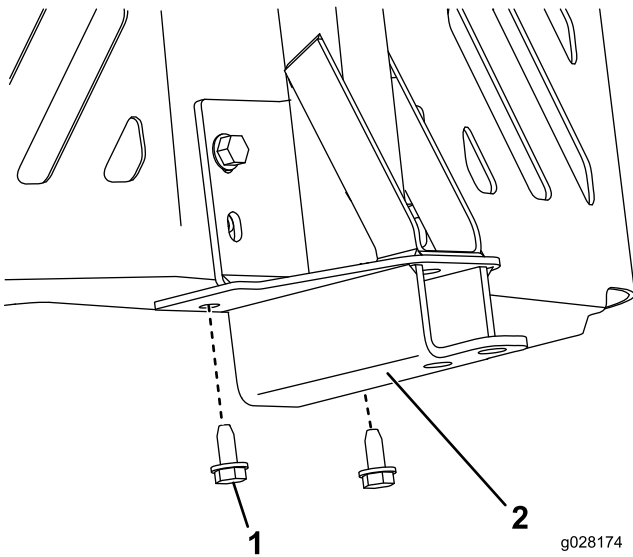

Figure 3
3. Secure the pivot frame to the bottom of the machine frame using 2 self-tapping screws (5/16 x 3/4 inch) as shown in Figure 3.